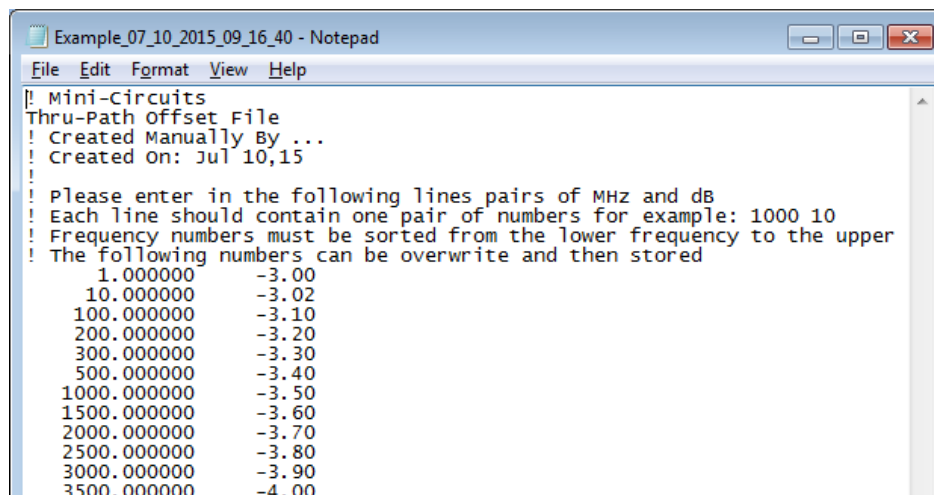

Figure 3.6.3: Offset file browse window
3.6.3 To create an offset file manually click on the edit icon over the file name window and a sample offset file will be created (Fig. 3.6.3). Replace the values in the sample file with the values you need and save the file. There is no requirement for any specific file name or suffix, however as the file is a simple text file saving it with a txt suffix to simplify future editing is recommended.
Note: When reading frequencies between two sets of values the PWR sensor software will use linear interpolation to calculate the required offset. When reading a frequency outside the range covered by the offset file the closest value will be used. Thus when using the example shown in **Figure 3.6.3** the offset value for 5750 MHz will be -4.45 dB and for all frequencies 6000 MHz or greater will be -4.5 dB.
Clicking on the 'View Graph' button in the data record window (**Fig 3.6**) will open a graphical presentation of the recorded data (**Fig 3.6.3**). Default presentation is of power only, using the same units as the data was recorded in, but user can select to present both power and temperature by checking 'Show temperature graph' or change the power units by clicking on the arrow next to the graph title.